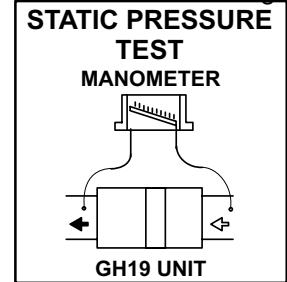

FIGURE 11
- 1 - Measure tap locations as shown in figure 11.